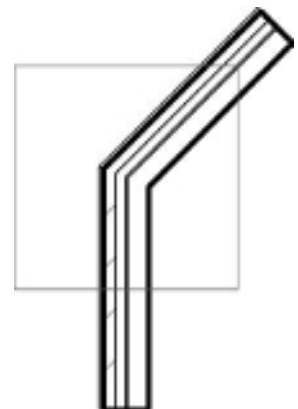

Figure 3.64
3. Move your mouse pointer over the wall join that you want to edit. A large square will be displayed around the wall join (Figure 3.64). Click to select that wall join.